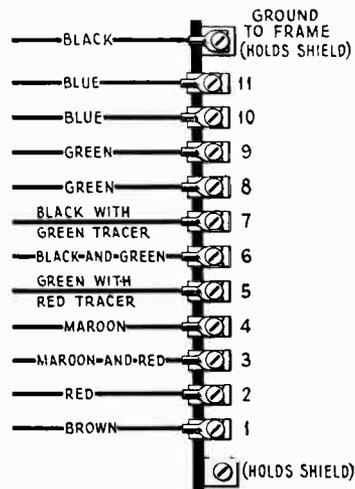
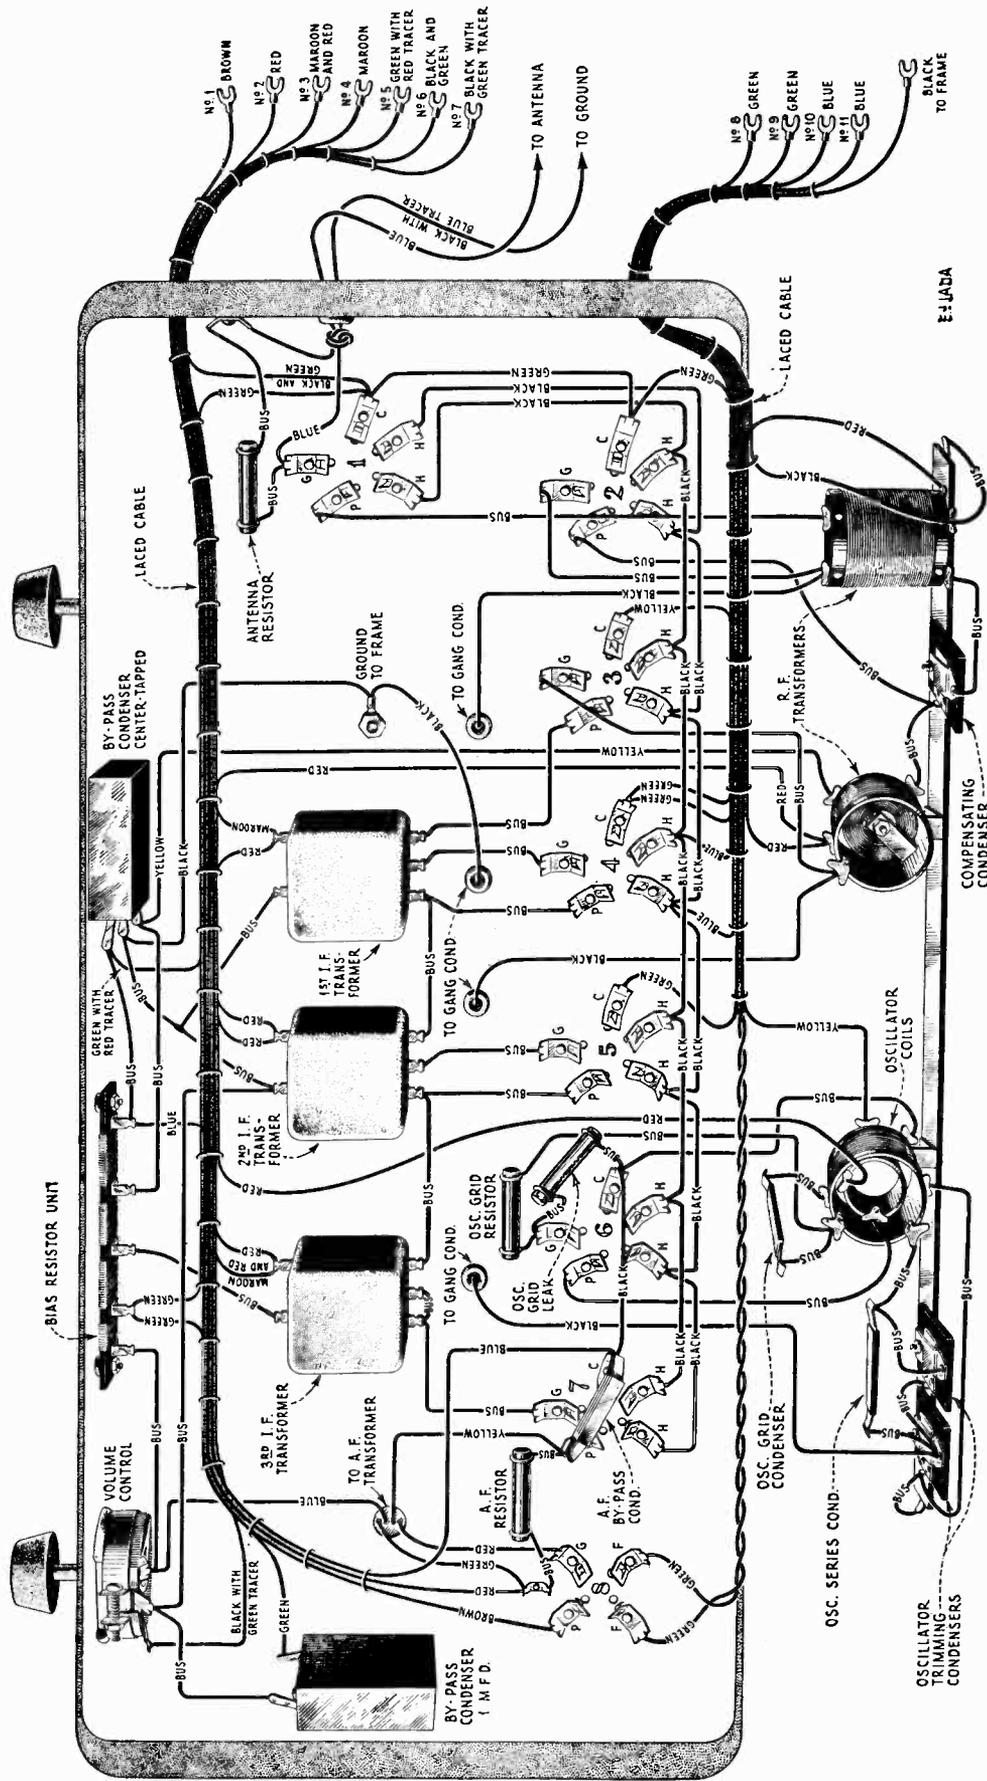
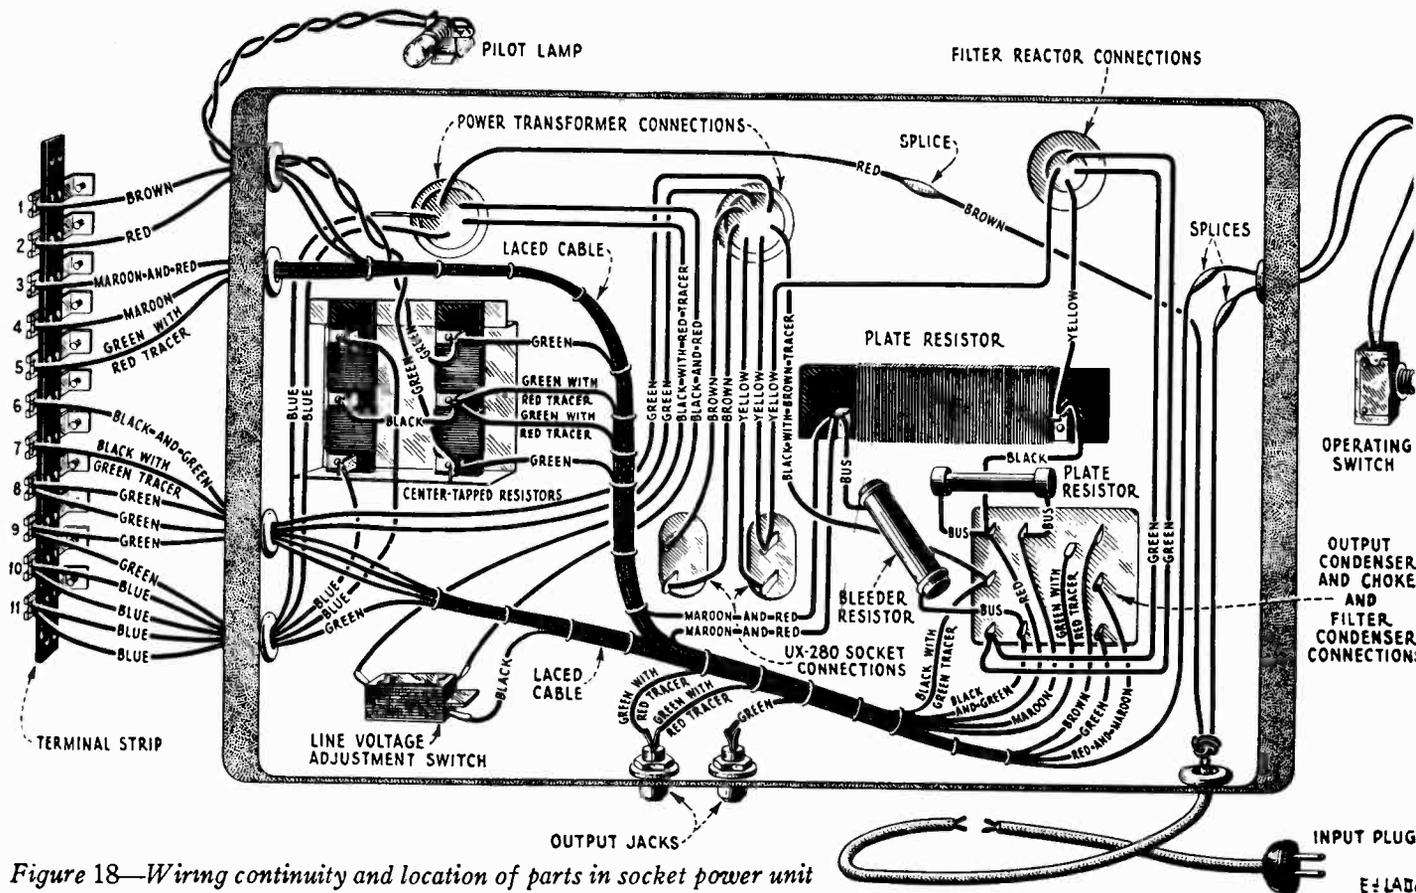

Figure 15—S.P.U. terminal strip with color scheme of connections
Figure 17—Wiring continuity and location of parts in receiver assembly
Figure 18—Wiring continuity and location of parts in socket power unit
A simple method of locating a shorted transformer is to use a resistance bridge or the resistance measuring method described in “Radiola 32 Service Notes.” The approximate transformer primary D.C. resistance is 20 ohms; secondary 100 ohms. Due to the circuit arrangement it will only be possible to get a reading of 50 ohms on the secondary as the end connection goes to the neutralizing condenser and the reading must be made at the center tap connection. This test can be made from the underside of the chassis. (See circuit diagram Figure 17.)
The following tests will show complete continuity for the receiver assembly (Figure 17) and S.P.U. (Figure 18). Disconnect the antenna and ground leads; the cable connecting the S.P.U. to the receiver assembly; and the A.C. supply cord at its outlet.
A pair of headphones with at least  $4\frac{1}{2}$  volts in series or a voltmeter with sufficient voltage to give a full scale deflection when connected directly across the battery terminals should be used in making these tests. The receiver sockets, numbers and lugs used in these tests are shown in Figures 17 and 19. The S.P.U. terminal numbers are shown in Figures 15 and 18.
- (g) Remove the old volume control and fasten the new one in position by means of the two machine screws and nuts, and replace the three soldered connections. The correct connections of these leads are shown in Figure 17.
- (e) Resolder all connections in their correct position on the assembly. This is shown in Figure 17.
- (d) Remove the old Radiotron socket and fasten the new one in position by means of screws, nuts and washers. Resolder all connections and replace the R.F. assembly if removed. The correct connections are shown in Figure 17.